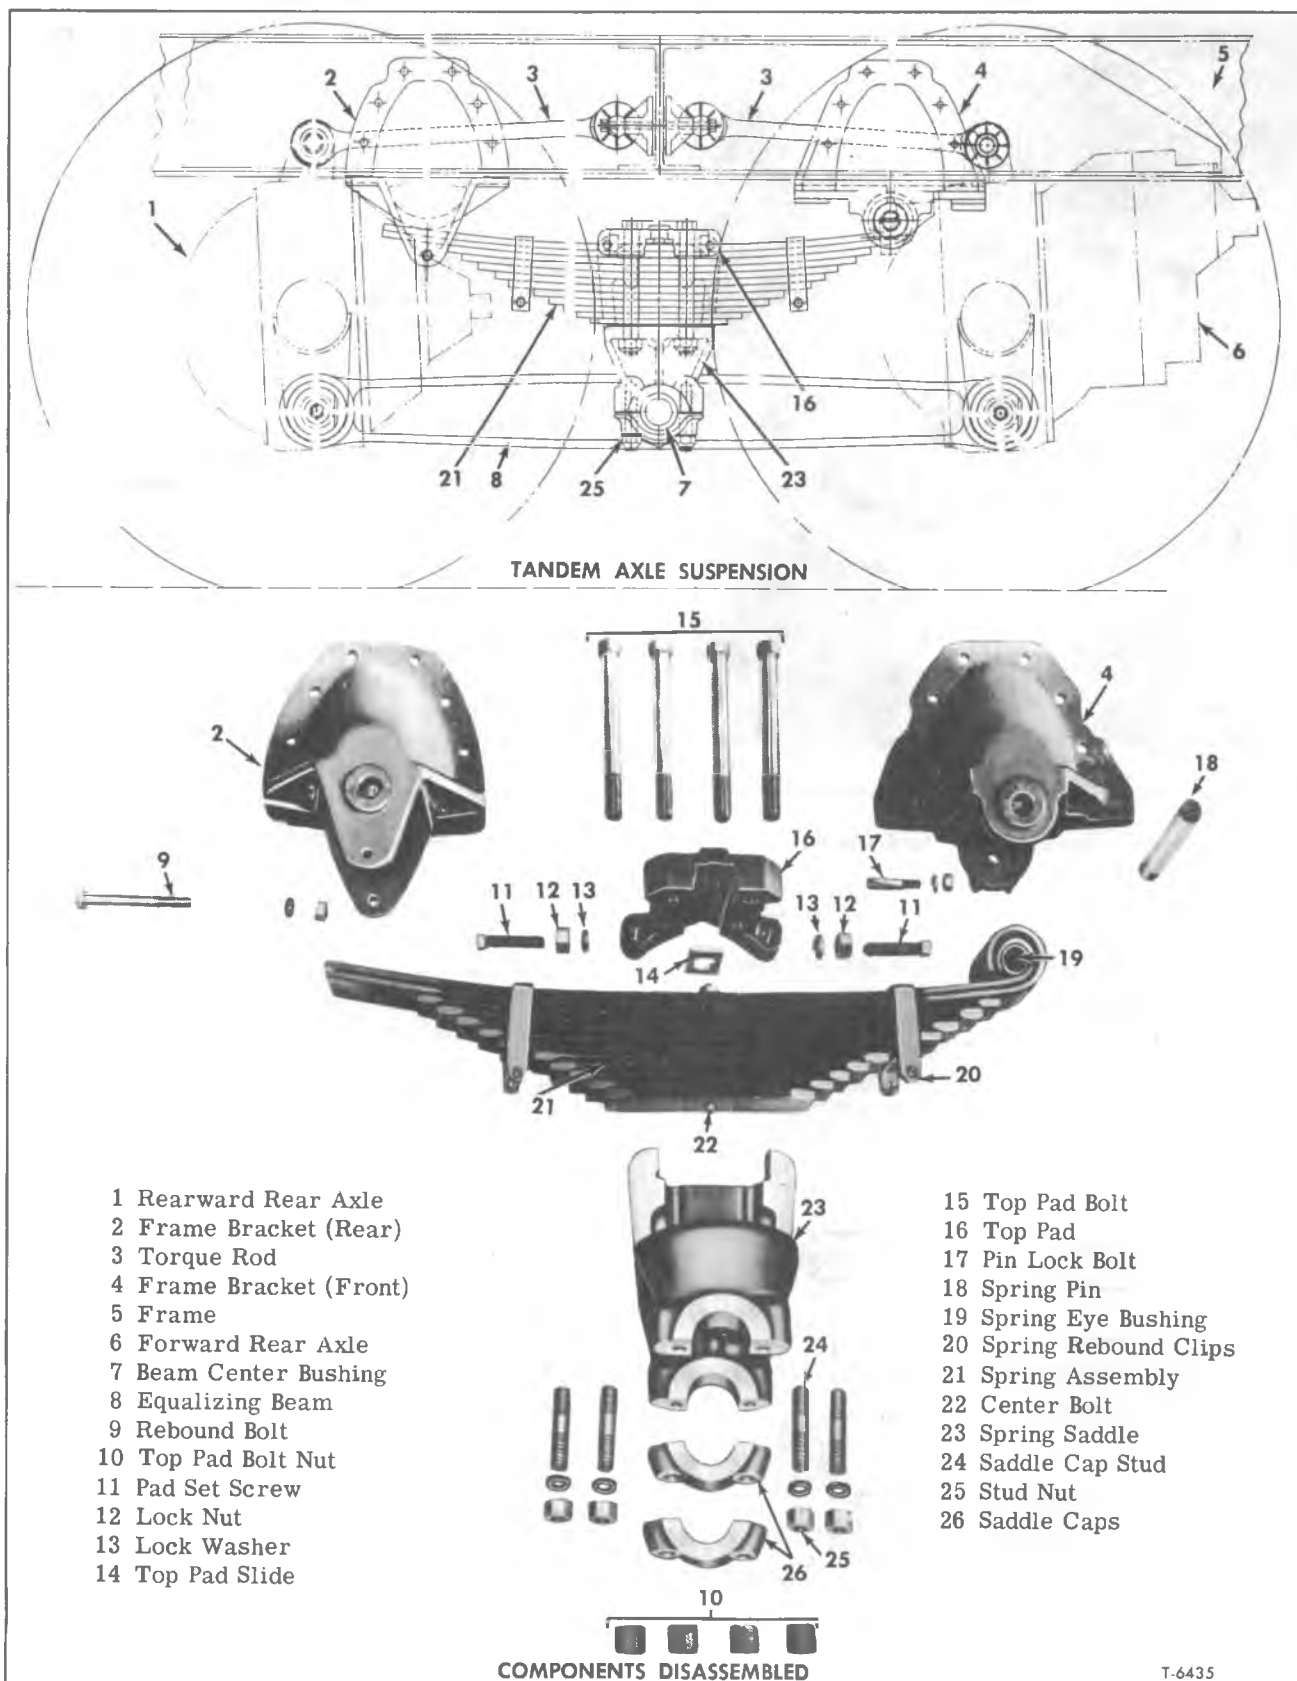
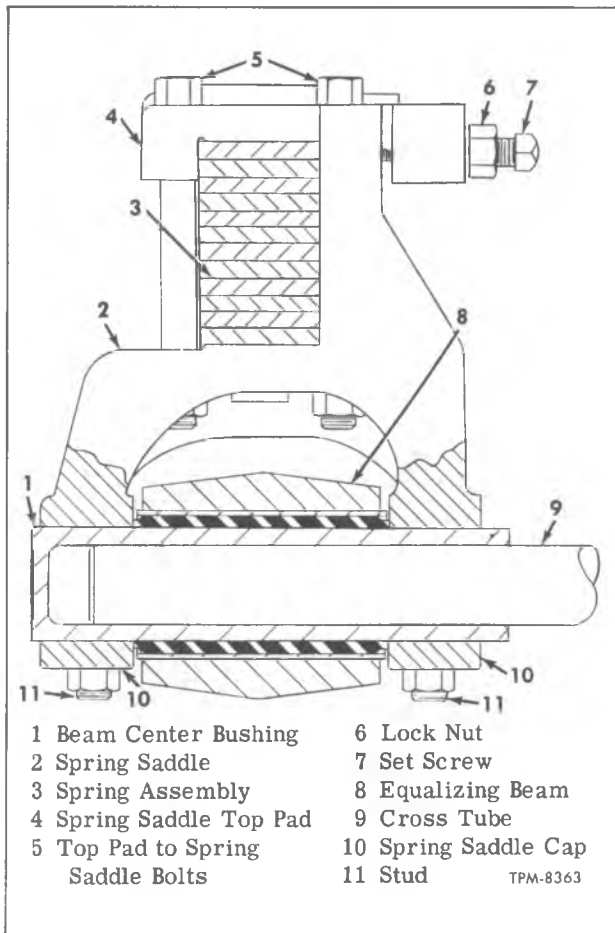

Figure 6—Tandem Rear Axle Suspension (Hendrickson R.T.) (Typical)
Figure 10—Section Through Spring Saddle and Beam
The RT type embodies a spring top saddle pad that uses bolts to secure spring to axle. Figure 6 shows typical arrangement of Hendrickson suspension units described.
REMOVAL (Refer to Fig. 6)
4. On vehicles equipped with the "RT" type suspension shown in figure 6, remove four bolts which attach spring saddle top pad to spring saddle; hold nuts at bottom while turning bolt at top. Loosen lock nuts on top pad setscrew, then loosen setscrew and lift top pad and the slide from top of spring. Lift spring assembly up and rearward to remove from spring saddle.
### INSTALLATION (Fig. 6)
2. At axle brackets, remove nuts (5), washers (7), and bolt (1). Pry adapters (2) from bushings and brackets.
3. With blocking under beam cross tube (fig. 10) to support weight of beams, remove saddle caps (fig. 6) attached with four nuts and flat washers.
1. Position beams, with cross tube in place at spring saddles (fig. 6) and axle brackets.